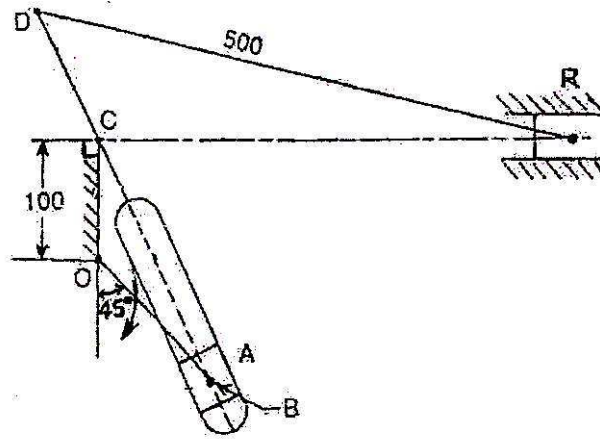

Fig. 4
5. In a Whitworth quick return motion as shown in Fig. 4, OA is a crank rotating at 30 rpm in a clockwise direction. The dimensions of various links are; $OA = 150$ mm, $OC = 100$ mm, $CD = 125$ mm and $DR = 500$ mm. Determine the acceleration of sliding block R and the angular acceleration of the slotted lever CB . [18]